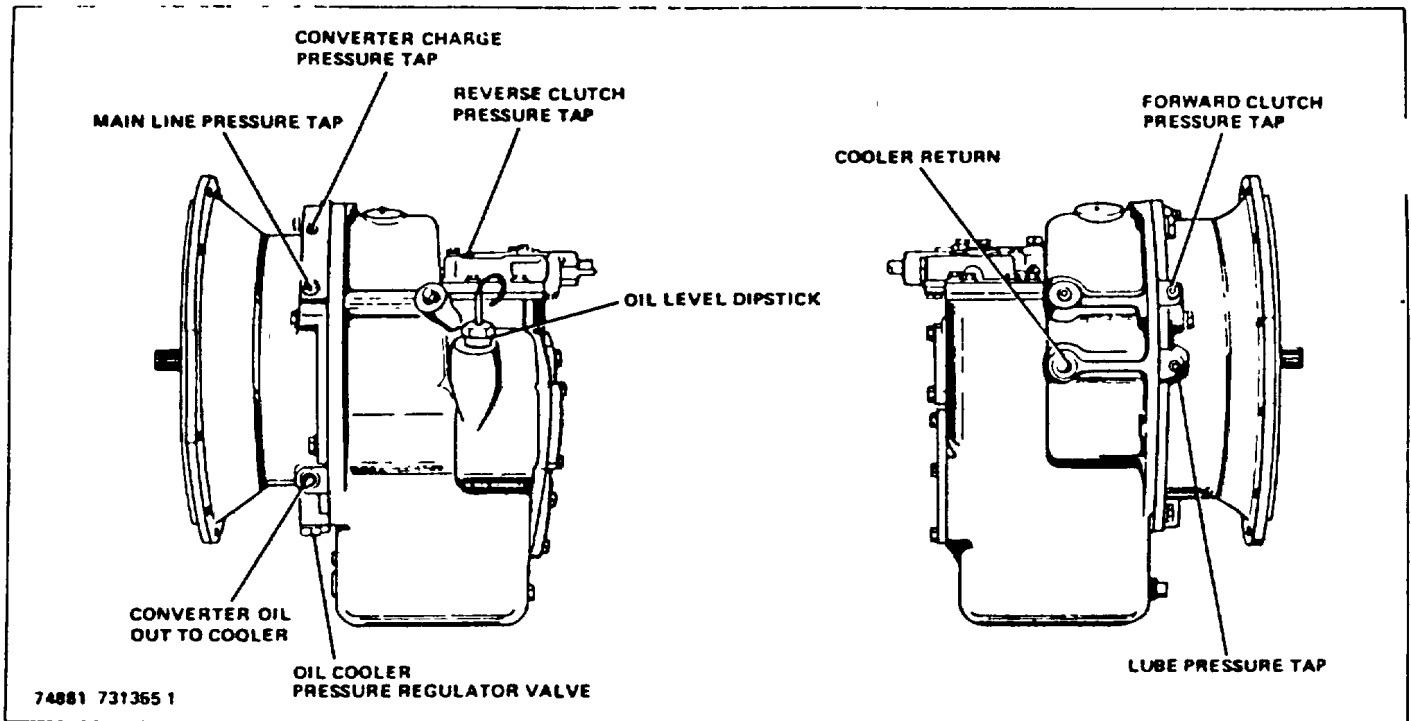

Figure 18. Pressure Tap Port Locations (One-Piece Converter Housing)
3. Mount a pressure gauge (0 - 300 p.s.i) in the appropriate pressure tap port for each check. (See Figures 18 and 19).